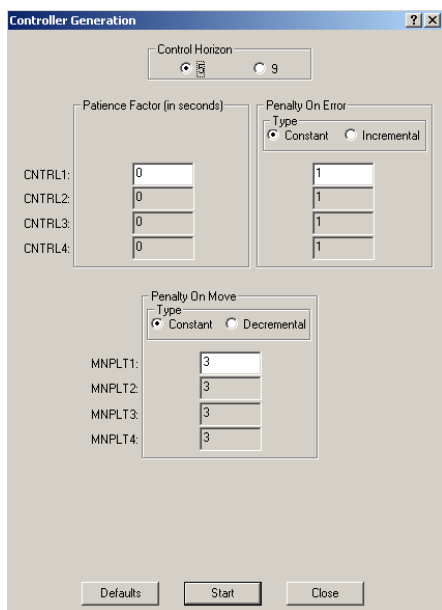

Figure 3.9 Controller generation and tuning parameters.
When the control is generated from a selected model, control parameters used to generate the control are displayed and shown in Figure 3.9. Here we can somewhat tune the controller. Normally only the Penalty On Move (PM) and Penalty On Error (PE) should be adjusted. In short: